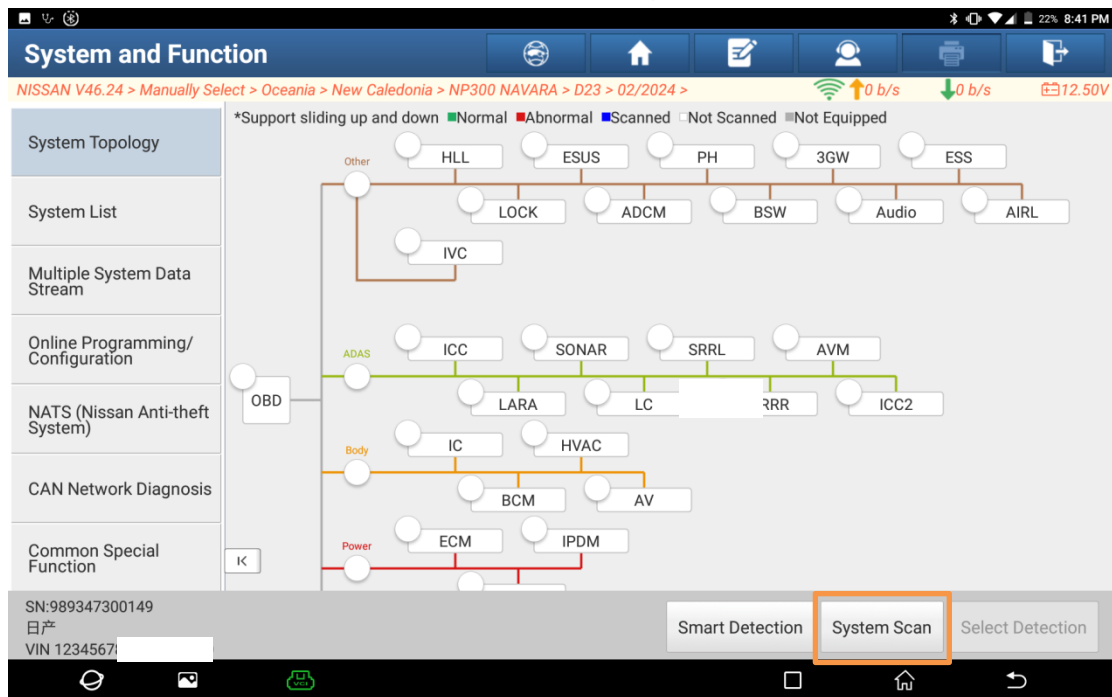

Figure 6
- On the vehicle model system interface (Figure 6), click [System Scan].